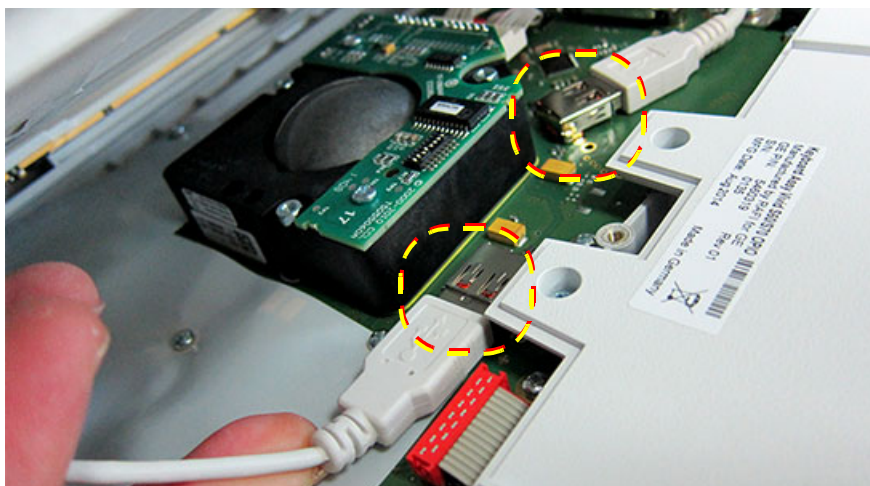

Figure 8-62 Installing Alphanumeric Keyboard/ Bottom Cover on Operating Panel Keyboard Assembly
- 1.) Holding the Alphanumeric Keyboard/Bottom Cover close to the Operating Panel Keyboard Assembly, carefully reconnect the two USB cables to the side of the trackball as shown in Figure 8-62 below..